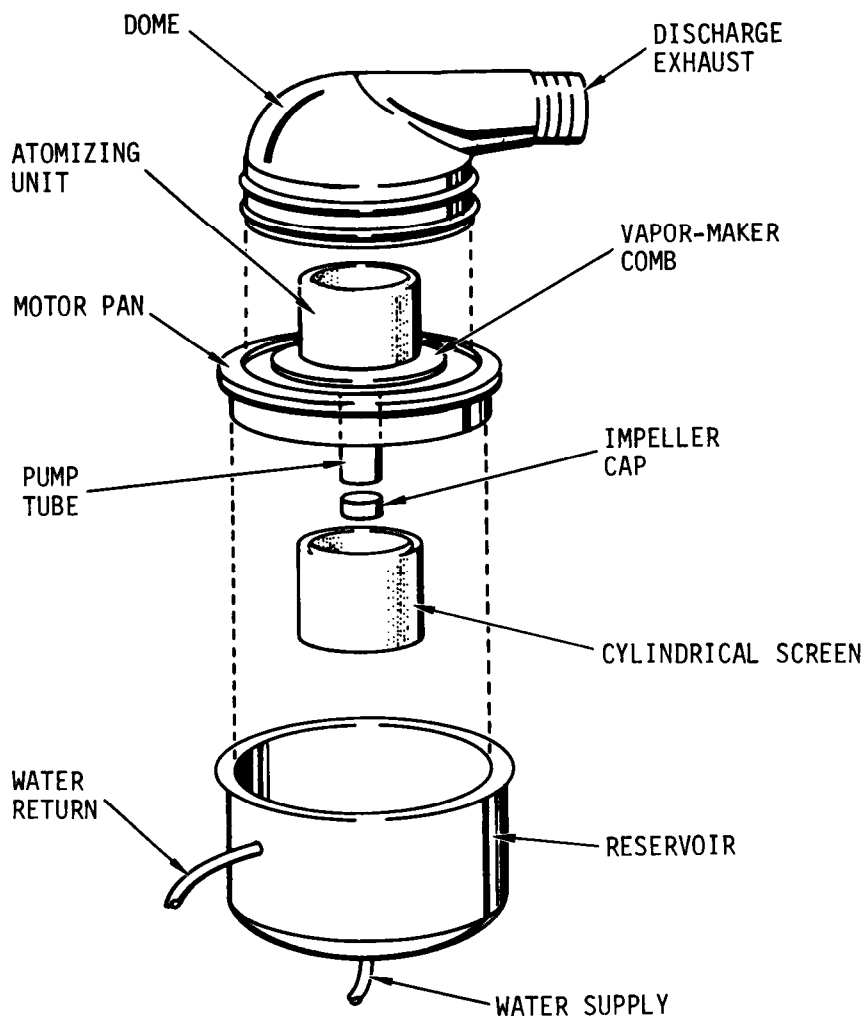

Figure 2-13. Humidifier
(4) The humidifier (fig 2-13) contains an atomizing unit which draws water from the tank, atomizes it, then blows the droplets through the dome and into the air duct. Air flow through the ducts and van distributes the moisture.
(5) When the pump tank water level gets too low, a low level switch on the pump operates the control box horn and indicator. Water in the humidifier tank drains into the pump tank anytime the pump stops.